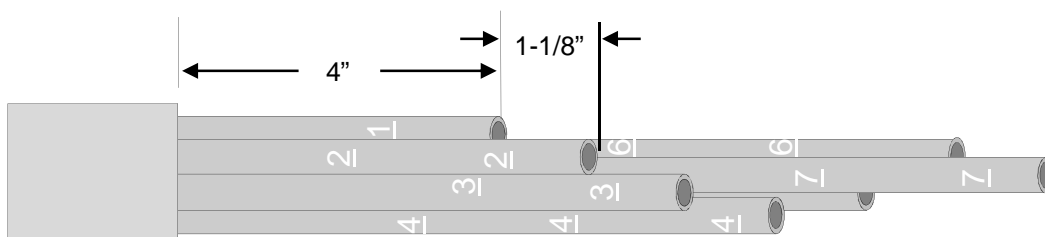

Figure 20
13.4 On first tube cable, locate Tube 1. Measure 4” in from stripped end of tube cable jacket and mark Tube 1. Use Tubing Cutter to cut Tube 1 at this mark. **See Fig. 20.**
1-1/8” from the end of previous cut tube (Tube 1) and mark Tube 2. Use Tubing Cutter to cut Tube 2 at this mark. **Refer to Fig. 20.**